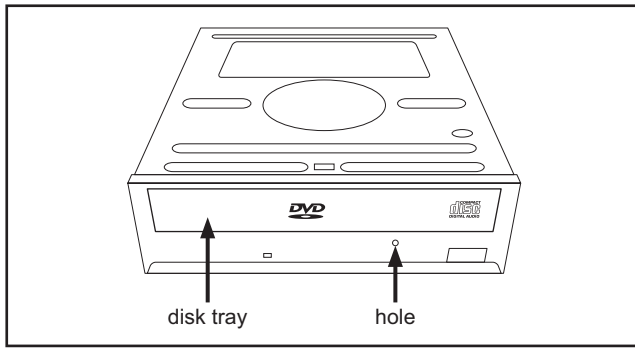

Fig.5-2a
- (3) Pass a thin wire through a hole in the DVD unit.
- (4) The disc tray comes out slightly. Take out the disc tray manually. (See Fig.5-2a)